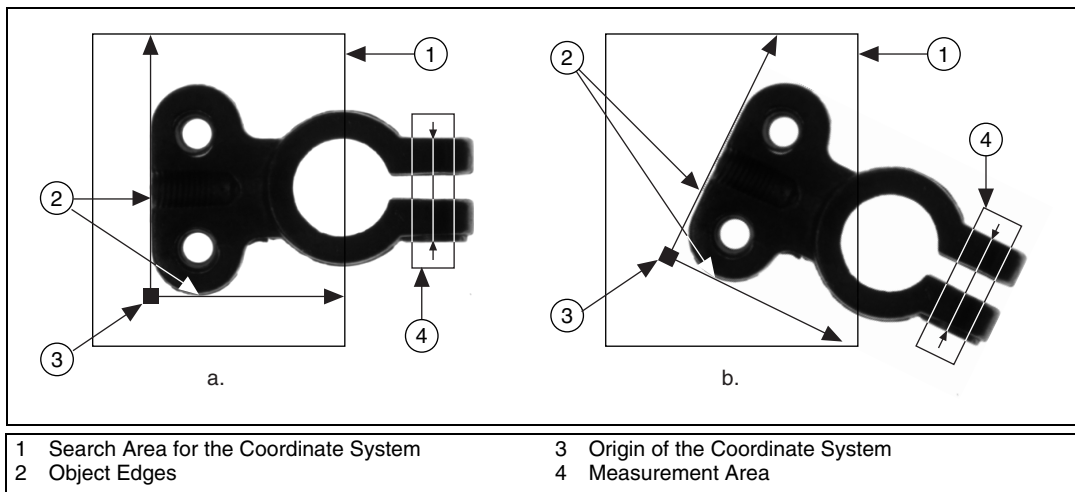

Figure 5-2. Coordinate Systems of a Reference Image and Inspection Image
- a. If you use IMAQ Find CoordSys (Rect), specify one rectangular ROI that includes part of two straight, nonparallel boundaries of the object, as shown in Figure 5-2. This rectangular region must be large enough to include these boundaries in all the images you want to inspect.